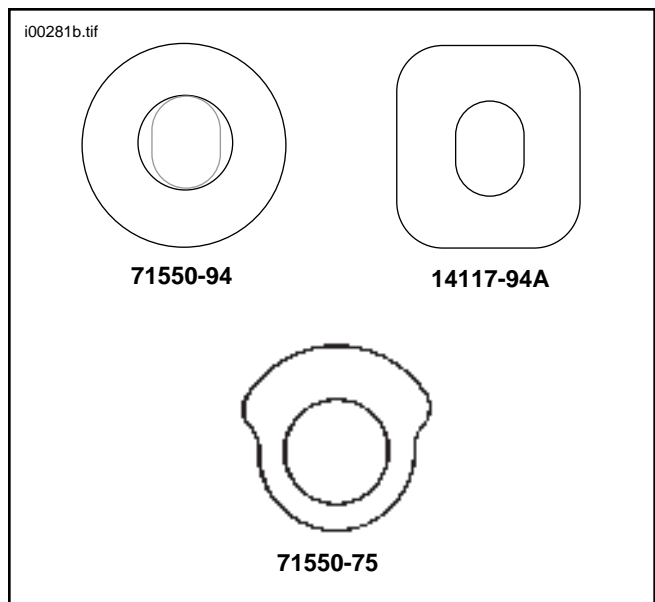

Figure 3A. Ignition Switch Labels
- On FXR and XL models**, see Figure 3A. Trim off "flats" from new round ignition switch label, Part No. 71550-94 (same style label as original), to make center hole into a perfect circle. This will allow you to rotate the label so that the new switch key positions will properly match up with the label indications. This is required since the new switch key positions are rotated 30° clockwise from the original flat key switch key positions. Install new label. **On FXD models**, reuse original rectangular ignition switch label.
3. See Figure 3A. Install new ignition switch label, Part No. 71550-75, noting that label should be in a position that is rotated 30° clockwise from position of original switch label. This is required since the new switch key positions are rotated 30° clockwise from the original flat key switch positions.
2. See Figure 3A. Trim off "flats" on new round ignition switch label, Part No. 71550-94, to make center hole into a perfect circle. This will allow you to rotate the label so that the new switch key positions will properly match up with the label indications. This is required since the new switch key positions are rotated 30° clockwise from the original flat key switch key positions. Install new label.